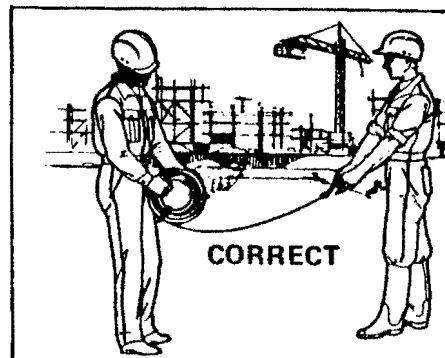

Fig. 9
- the wire rope should be reeled and unreeling in a straight line (Fig. 9) to prevent loops and kinks (Fig. 10). Kinked wire rope will not work in the GRIPHOIST machine. For this reason never use the rope as a sling; always use a separate wire rope or chain sling;